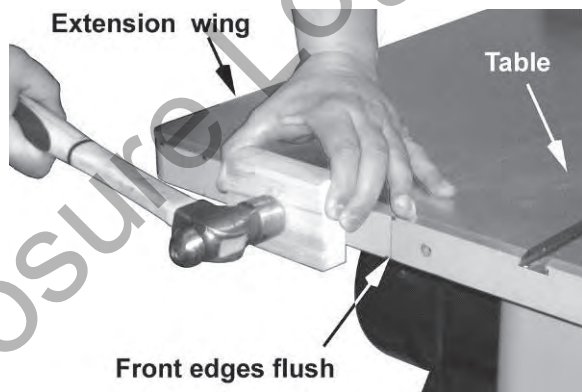

Figure 2
1. Mount a *cast iron extension wing* (A) to the right or left side of the *table* (B) using three each 3/8-16x1 *hex head screws* (C), 3/8 *lock washers* (D) and 3/8 *flat washers* (E). Have an assistant hold the extension wing up to the table while inserting the screws and washers. Finger-tighten only.
3. Make sure that the *front edge* of the extension wings are flush with the front edge of saw table (Figure 2).